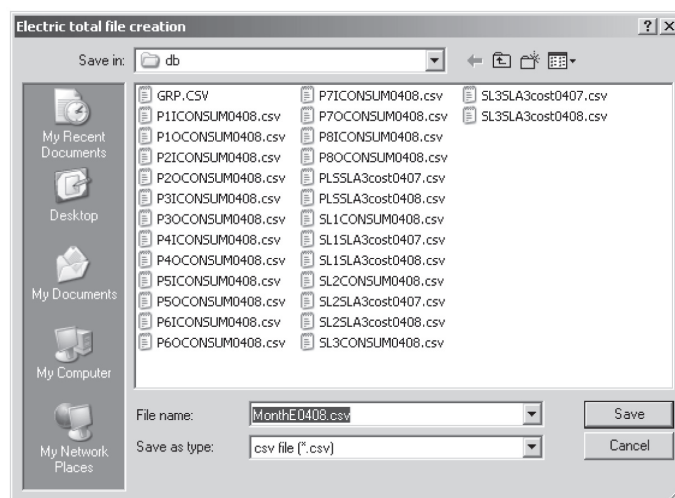

Fig.16 Input the file name dialog box
- 2) When you click the check box “The electric energy consumption”, Fig.16 dialog box will appear. If you want to change the file name, the folder name and the drive name, select another drive name and the folder, and type another file name that you want.